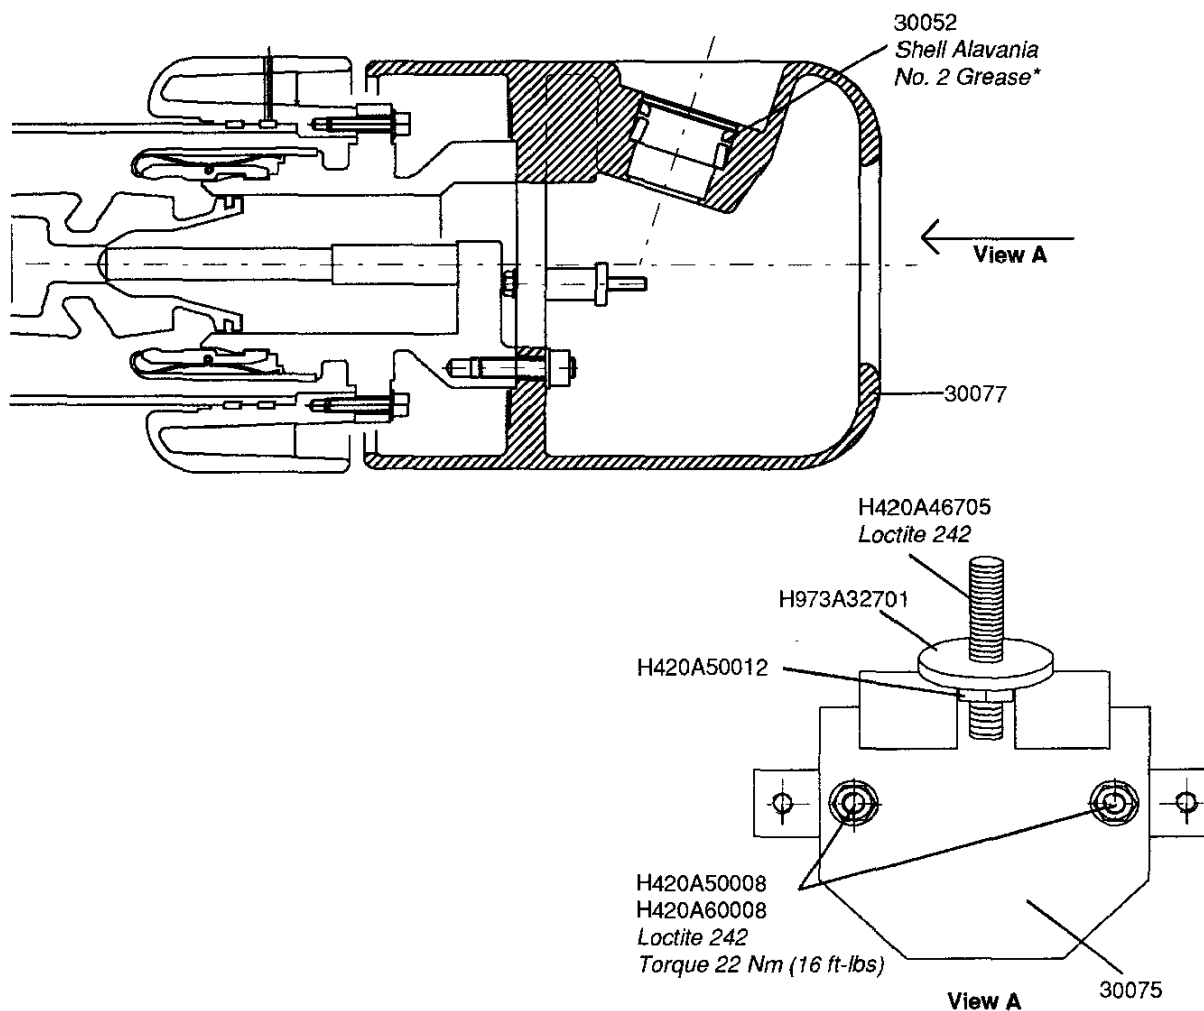

Figure 5
13. Install the M12 nut H420A50012 (Fig. 5) and washer H973A32701 that connect the bushing conductor 20001 to the rear exhaust shield 30077. Apply Loctite 242 and tighten the nut until it is **snug only** (hand-tighten plus 1/4 turn).
Do not overtighten nut H420A50012. This nut is intended only to support the interrupter. If the nut is overtightened, undue cantilever stress will be applied to the interrupter support tube which could cause mechanical failure of the tube. The nut is locked into position by the deflector 30075 (Fig. 5) and cannot turn loose.